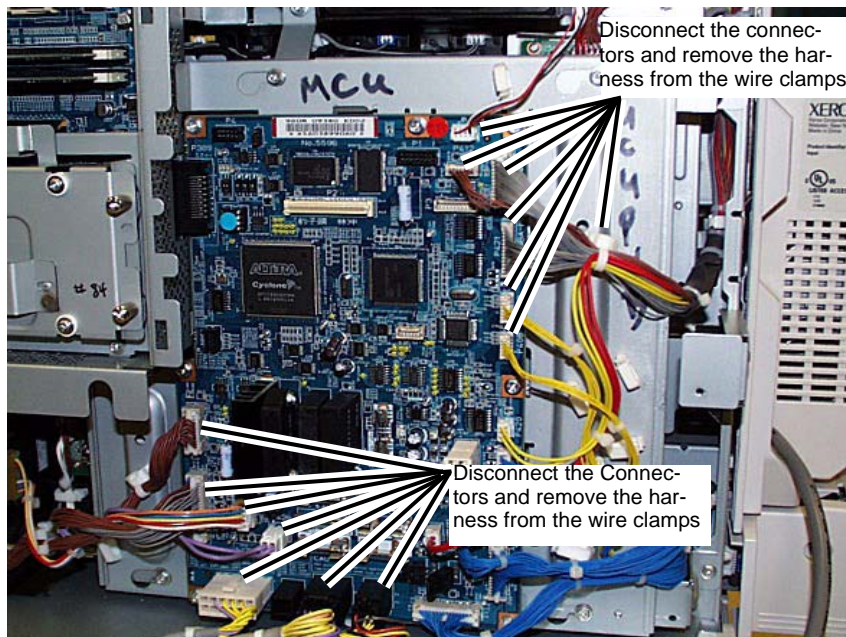
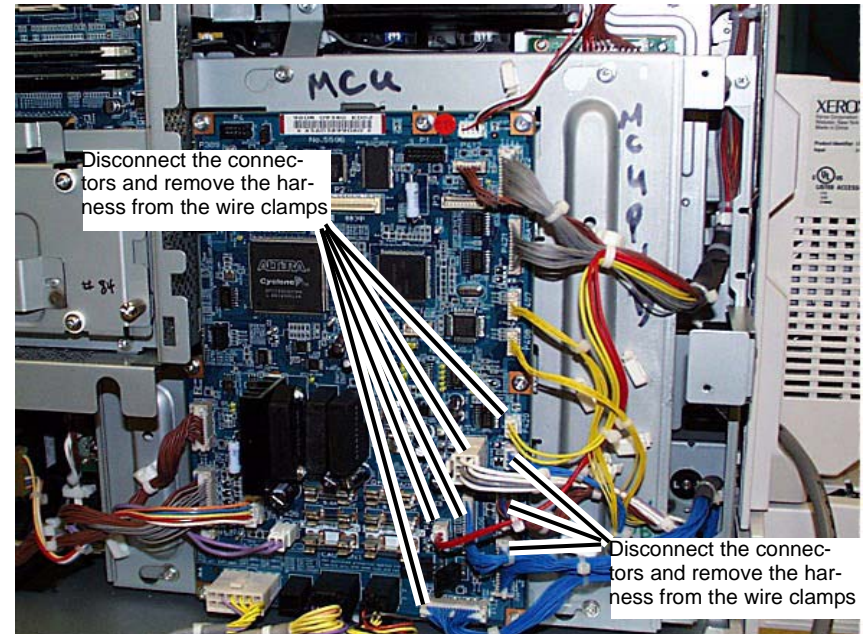

Figure 1 Disconnecting 13 of the connectors on the MCU PWB
Figure 2 Disconnecting the remaining 8 connectors on the MCU PWB
4. Disconnect the connectors from the MCU PWB. (Figure 1, Figure 2)